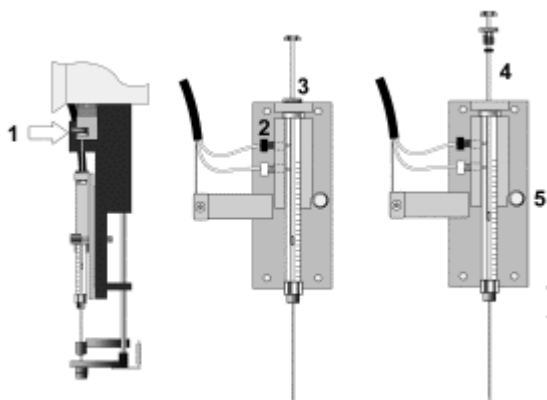

Figure 4-6 Exchanging the Sideport Syringe
3. Loosen the plunger holder retaining screw (#1 in Figure 4-6).